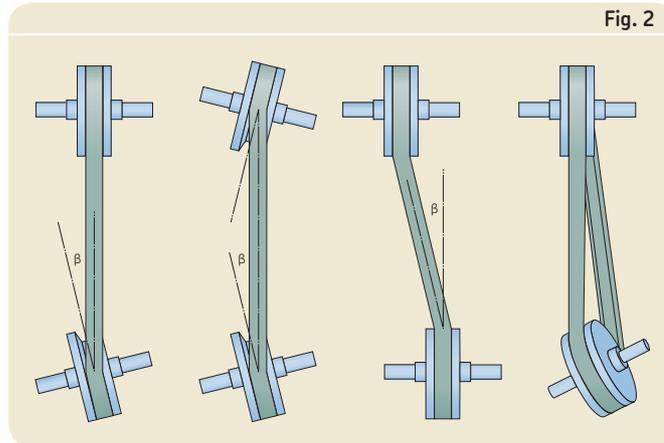
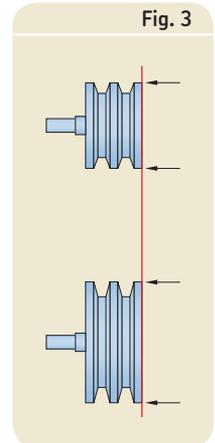

Fig. 2
Fig. 3
- 1 Pulleys are properly aligned. Maximum allowable misalignment β is $0,3^\circ$ or 5 mm / 1 m of centre distance. Values greater than those listed will reduce the belt service life and cause edge wear. Misalignment is represented by the ways shown in **fig. 2**. A straight edge should be used to check proper alignment as in **fig. 3**.